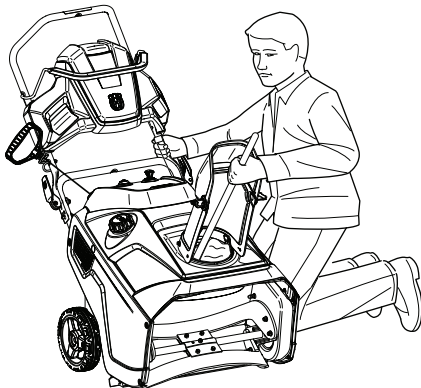

Figure 20
- Always use a clearing tool at least 15 inches long, not your hands (Figure 20).